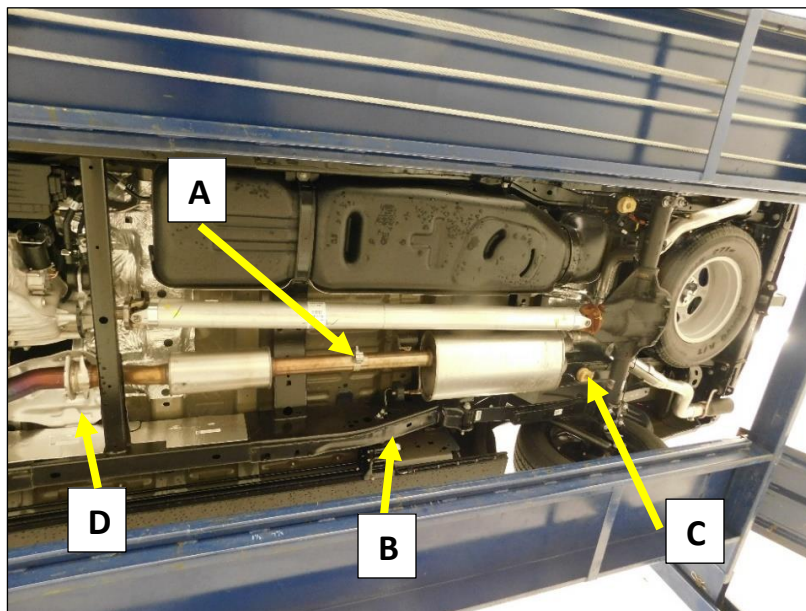

Figure 5
9. Loosen the clamp at the slip joint between the muffler and the resonator **(A)**. **Fig. 5**
11. Remove the (x2) bolts at the muffler hanger on the frame rail **(B)**. **Fig. 5**
12. Remove the bolt from the muffler hanger over the muffler and remove the hanger from the cross brace **(C)**. **Fig. 5**
14. Remove the bolts from the flange at the resonator inlet pipe and remove the resonator **(D)**. **Fig. 5**
- Install the muffler hanger (B) **Fig. 5/7** on the frame rail in the same location it was removed.